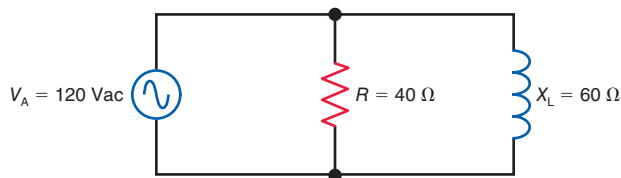

Figure 20-18
20.15 In Fig. 20-18, solve for I_R , I_L , I_T , Z_{EQ} , and θ_T .
20.23 In Fig. 20-18, calculate the real, reactive, and apparent power and power factor.